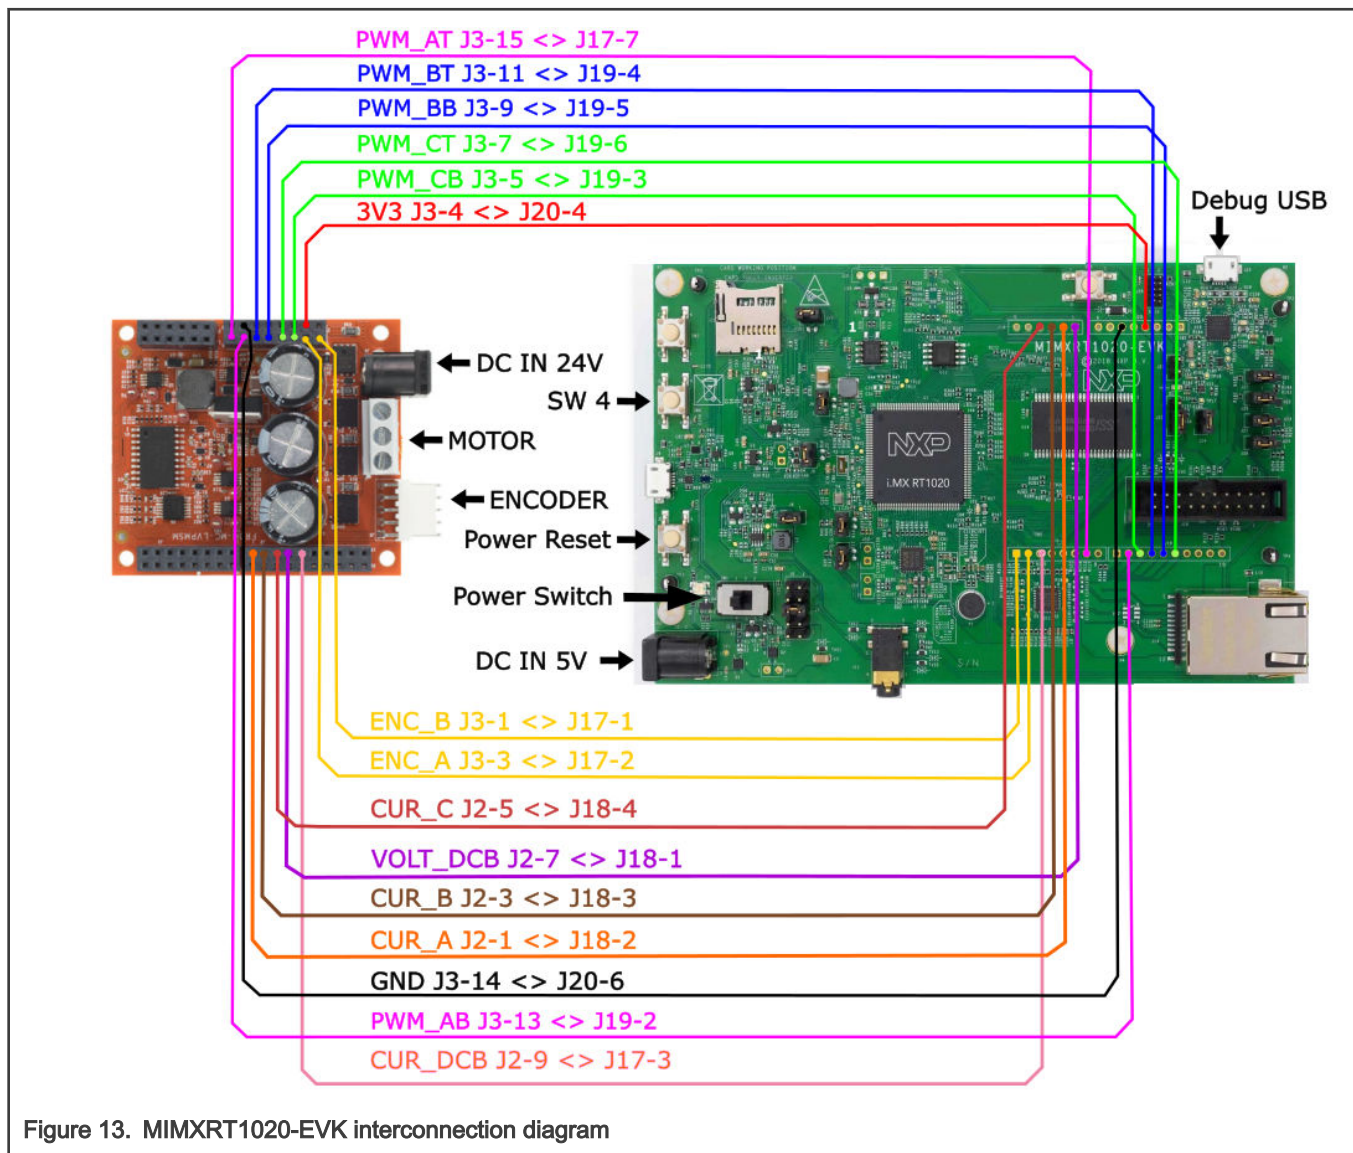

Figure 13. MIMXRT1020-EVK interconnection diagram
1. Wire the FRDM-MC-LVPMSM power stage to the MIMXRT1020-EVK board according to the pin assignment (Table 6) and the interconnection diagram (Figure 13).